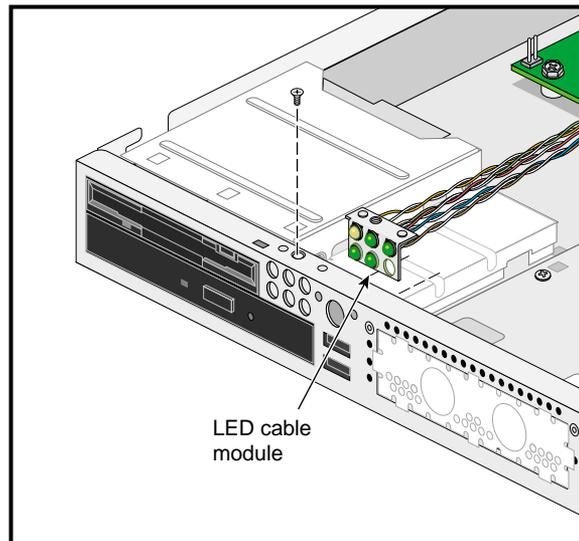

Figure 2-16 Installing the LED Cable Module
3. Remove one screw from the LED cable module as shown in Figure 2-16.
1. Set the LED cable module in place and secure it with one screw as shown in Figure 2-16.